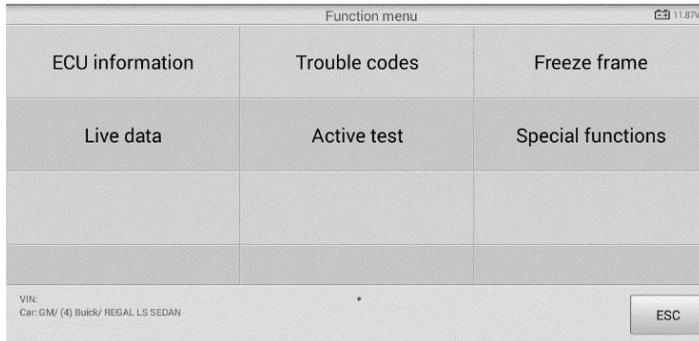

Figure 4-10 Sample Function Menu
- Column 4 — performs further diagnosis and other test activities. A Function Menu screen (see Figure 4-10 Sample Function Menu) shall display when you tap the button  .